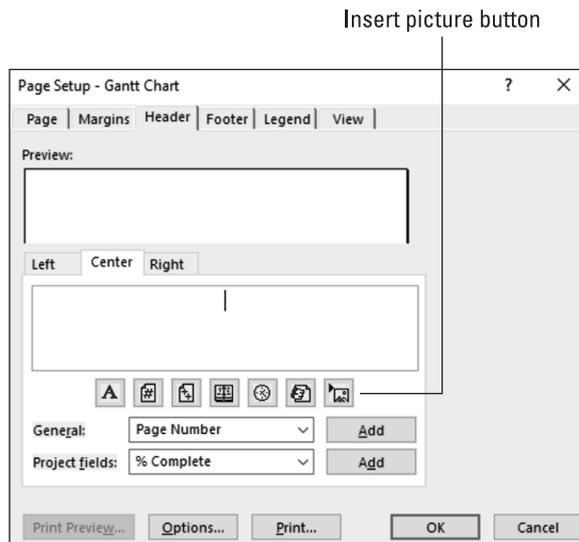

FIGURE 18-10:
4. Click the **Insert Picture** button, as shown in Figure 18-10.